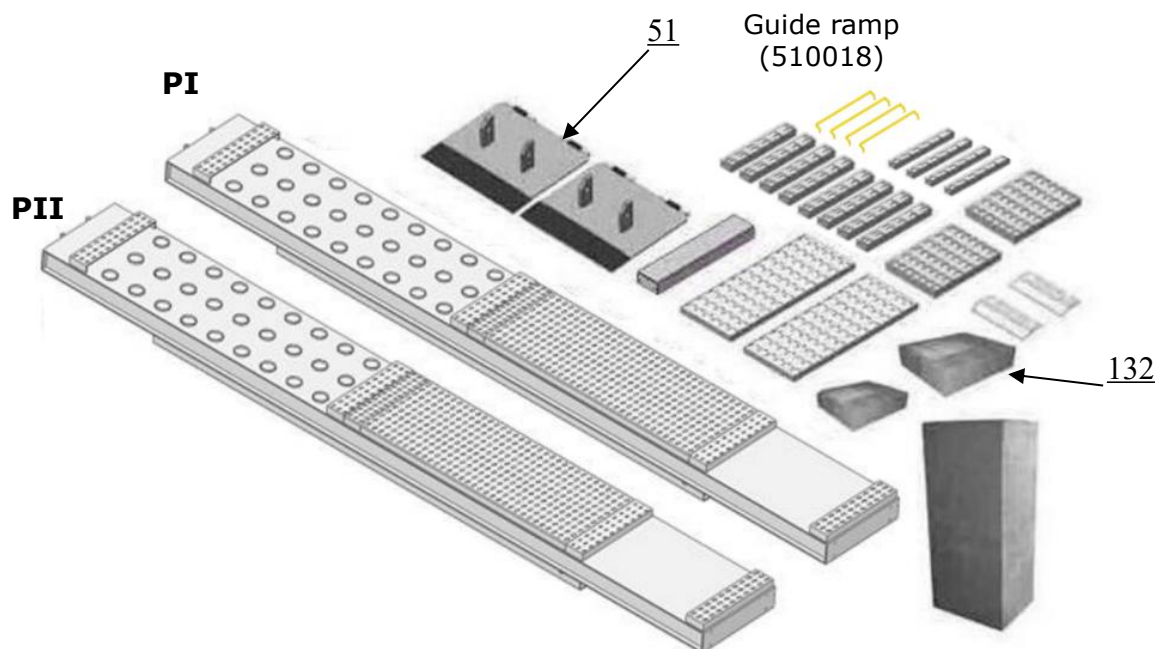

Fig. 9
2.2 Parts for lift of flush mount installation **(See Fig.9)**